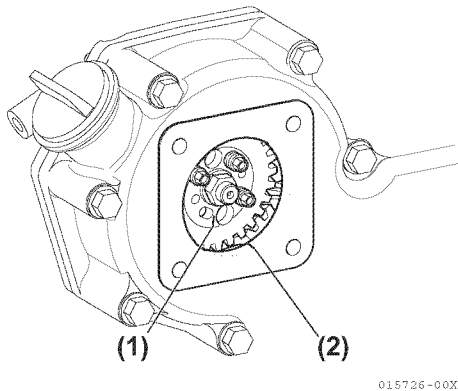

Figure 6-58
- On 4JH4AE models, the idler gear is not visible. Make a reference mark on the fuel injection pump drive gear (**Figure 6-58, (1)**) and a matching mark on the bore of the gear case opening (**Figure 6-58, (2)**). **CAUTION! Do not loosen or remove the four bolts retaining the fuel injection pump drive gear to the fuel injection pump hub. Do not disassemble the fuel injection pump drive gear from the hub. Correct fuel injection timing will be very difficult or impossible to achieve.**